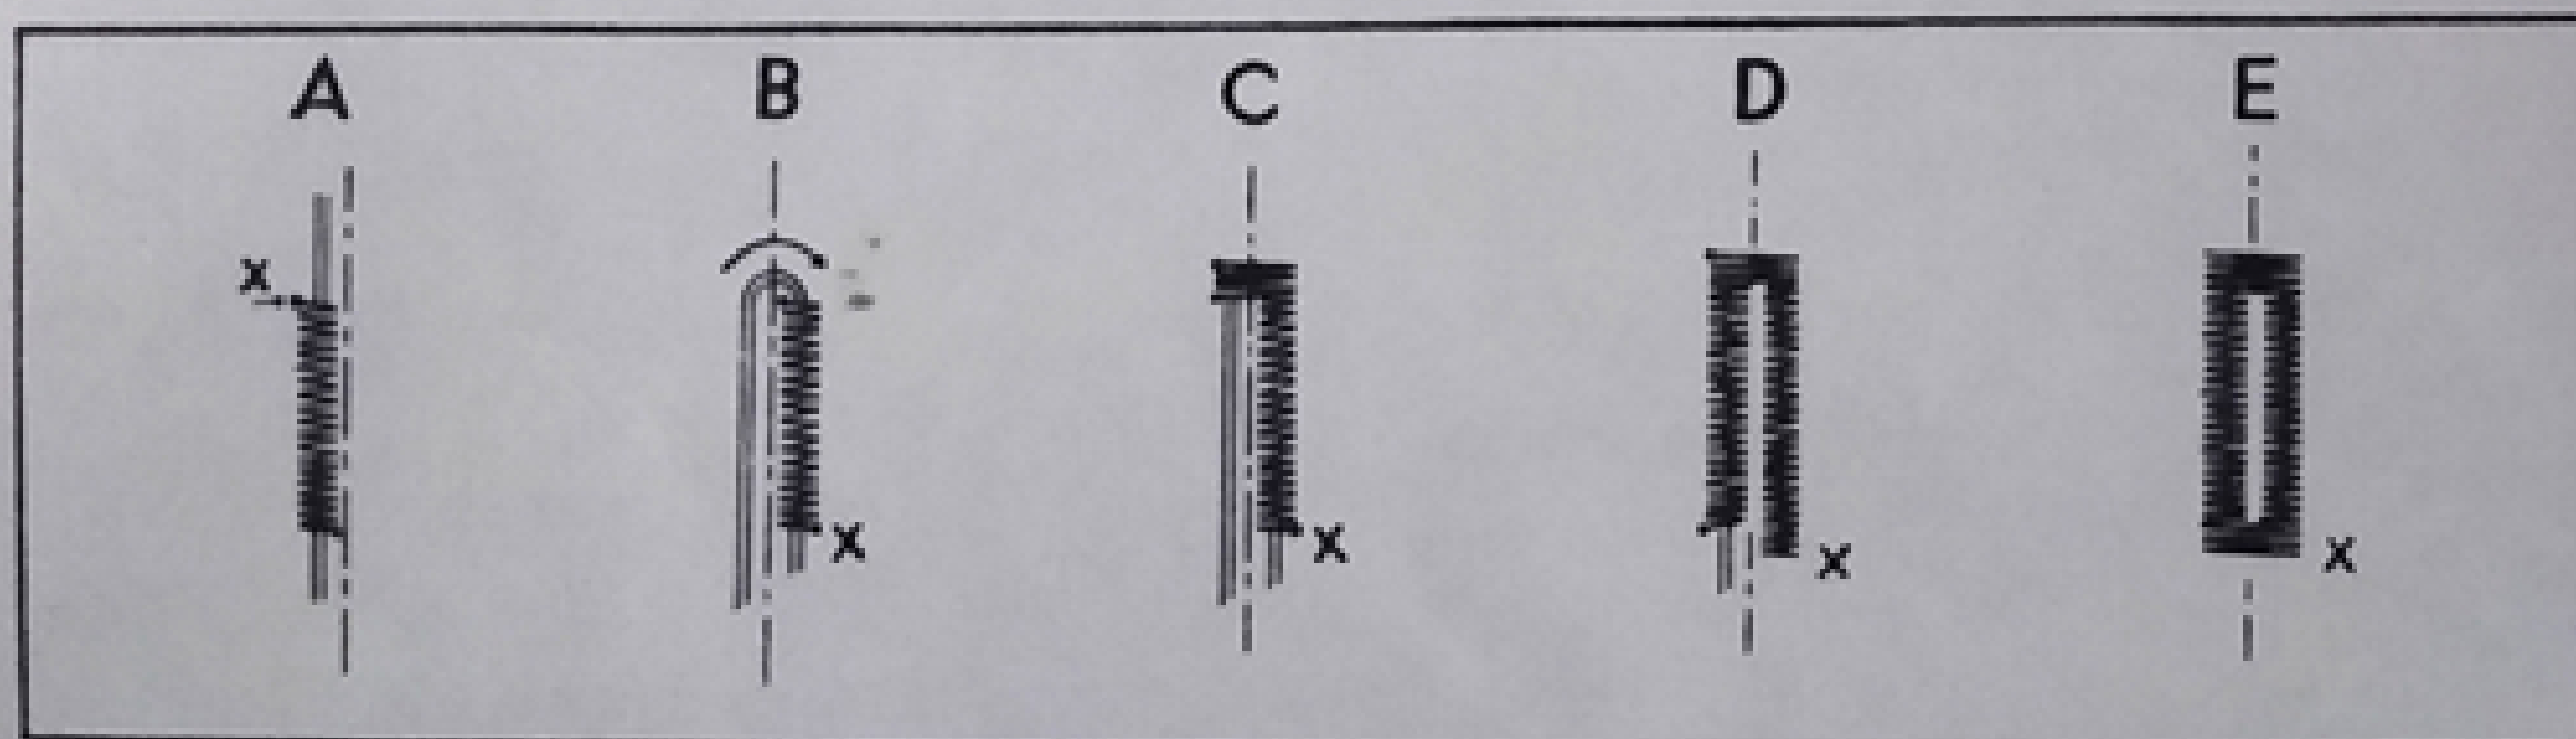

Fig. 25
7. Start sewing to length X as shown in Fig. 25 A.
8. Now turn the material around 180 degrees so that now X appears on bottom as shown in Fig. 25 B.
9. Raise the needle to its highest position and turn Knob B to the right as far as it will go and hold it in this position to make a few full width stitches as shown in Fig. 25 C.
10. Release Knob B and sew the other side of the buttonhole, as shown on Fig. D. When you have reached the desired length, close the ends by turning Knob B to the right and make a few full width stitches as shown in Fig. 25 E.